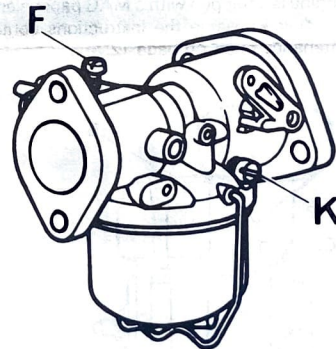

Fig. 7
- At idling speed, the correct fuel-air ratio is obtained by adjustment of the idling mixture screw (K, Fig. 7). The idling mixture screw has to be closed carefully, then unscrewed by 1 1/4 turn (basic adjustment).
- After the engine is warmed up at its normal operating temperature, set the idling speed in accordance with the specifications (about 1 000 r.p.m.) by adjusting the throttle stop screw (F, Fig. 7). Check the engine speed with a revolution counter.
- The idling mixture screw (K, Fig. 7) has to be screwed in resp. until the engine speed does not increase any more and a smooth operation is obtained.
- The required idling speed can be set with the throttle stop screw (F, Fig. 7). The engine speed should accelerate frankly without « hunting ». In the opposite, the idling mixture screw (K, Fig. 7) has usually to be adjusted for a richer mixture but sometimes it may also be necessary to lean the mixture.